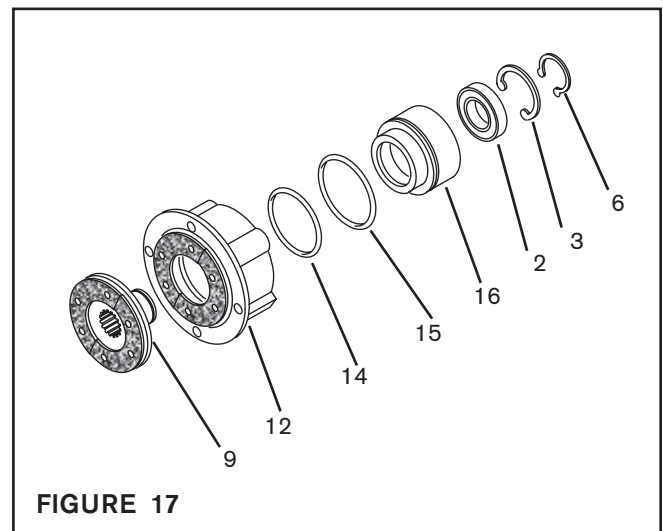

FIGURE 17
11. Remove the Retaining Ring (Item 6) and press the Splined Disc (Item 9) out of the Air Chamber (Item 12) (See Figure 17).
12. Slide the Piston (Item 16) out of the Air Chamber (Item 12) (See Figure 17).
13. Remove the O-ring Seals (Items 14 and 15) from the Piston (Item 16) and the Air Chamber (Item 12) (See Figure 17).
14. Remove the Retaining Ring (Item 3) from the Piston (Item 16) (See Figure 17).
15. Press the old Ball Bearing (Item 2) out of the Piston (Item 16) (See Figure 17).
17. Apply an adequate amount of Loctite® 680 to evenly coat the outer race of the new Ball Bearing (Item 2); then, press the new Ball Bearing (Item 2) into the Piston (Item 16) and install the Retaining Ring (Item 3) (See Figure 17).
18. Lubricate the new O-ring Seals (Items 14 and 15) and the contact surfaces on the Piston (Item 16) and Air Chamber (Item 12) with a thin film of fresh O-ring lubricant (See Figure 17).
19. Install the new O-ring Seals (Items 14 and 15) (See Figure 17).
20. Slide the Piston (Item 16) back into the Air Chamber (Item 12) (See Figure 17).
21. Support the inner race of the Ball Bearing (Item 2), located inside the Piston (Item 16), and press the Splined Disc (Item 9) into the Air Chamber (Item 12) and Piston (Item 16) (See Figure 17).
22. Reinstall the Retaining Ring (Item 6) (See Figure 17).